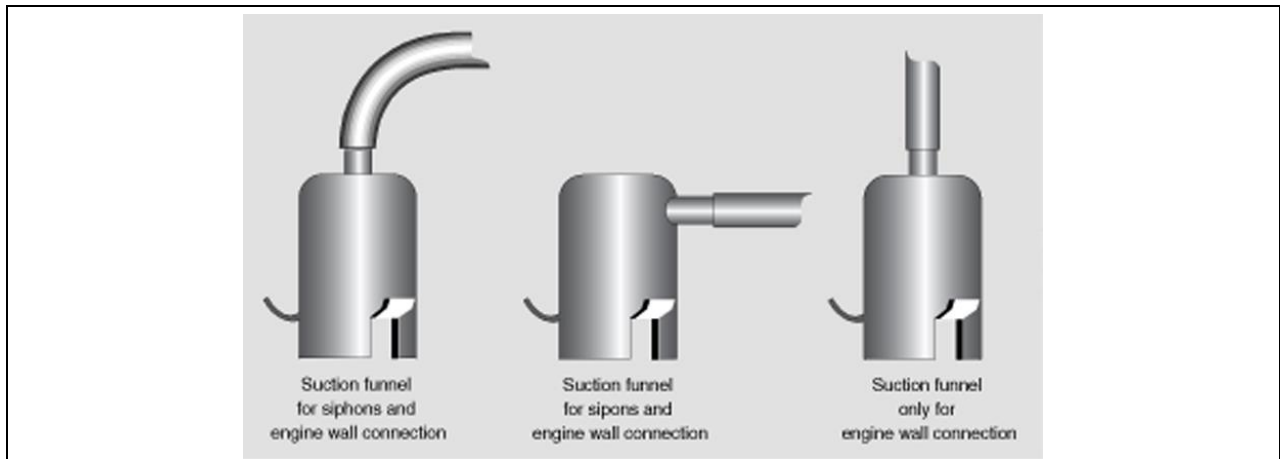

Figure 19: Different types of suction funnels
- Insert the suction funnel from the crankcase side into the siphon block, align it in a vertical position (see Figure 19) **with the opening at the bottom** and fix the small clamping nut.
The suction funnels have to be fitted in such a way that flooding by splashing bearing oil or returning piston cooling oil is avoided (see Figure 19).